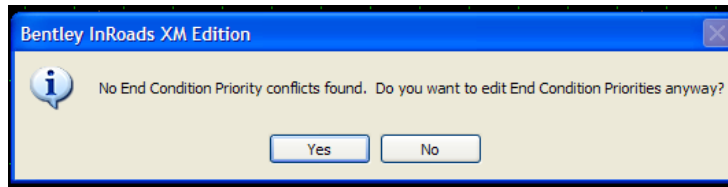
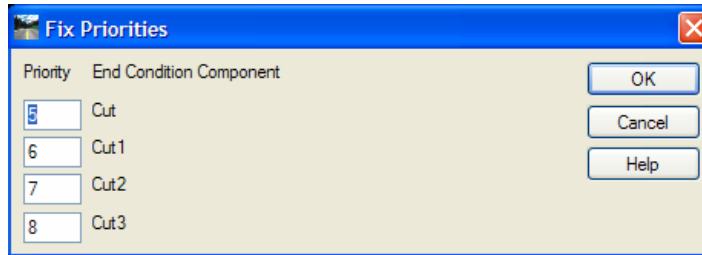

Figure 6-24 InRoads Edit End Condition Priorities Notification
Figure 6-25 InRoads Fix Priorities Component
- Q. If a message box appears stating that there are no conflicts, then precede by either clicking Yes and continue to review or change priorities, or click No. Below, Figure 6-24 shows this message box and Figure 6-25 shows the Fix Priority dialog box if the user opts to change the Priority.